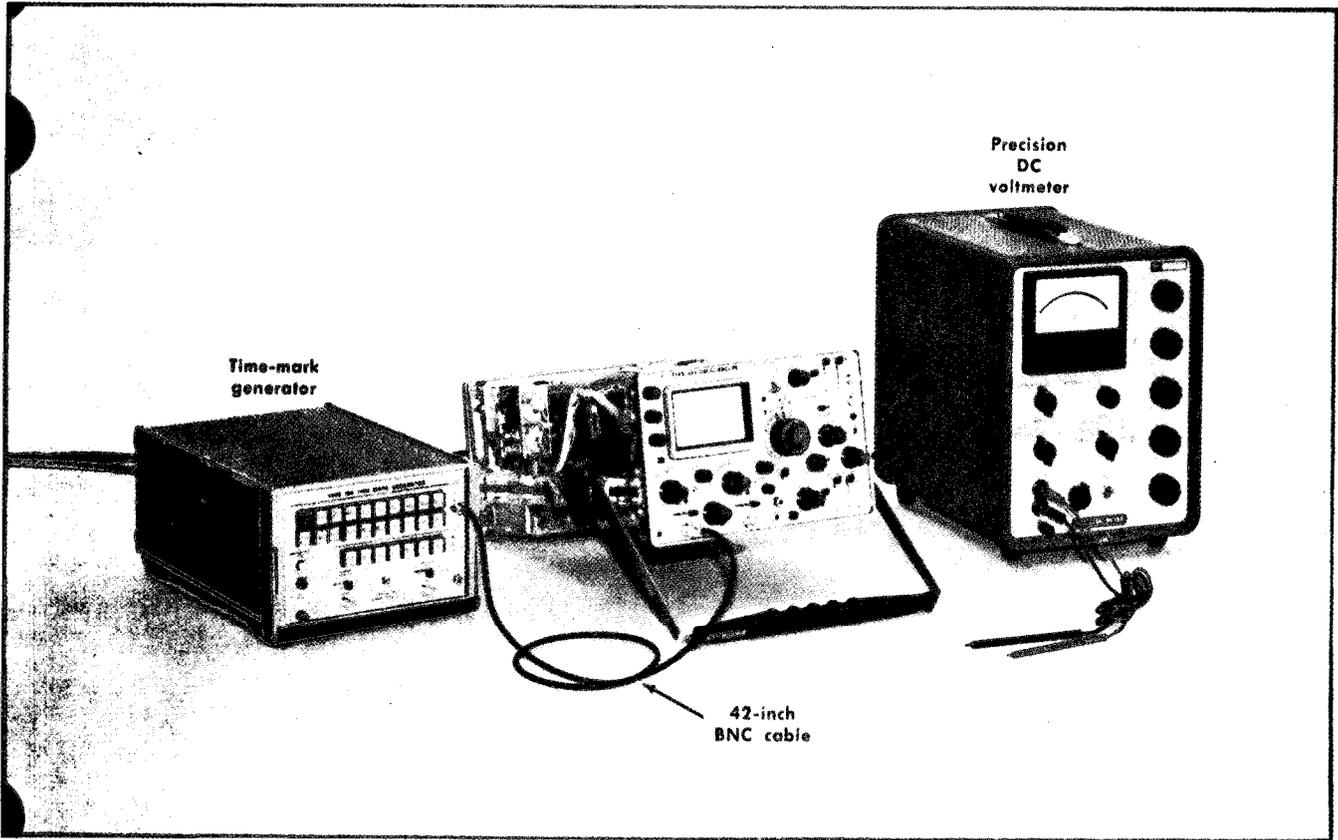

Fig. 6-10. Initial test equipment setup for steps 8 through 12.
- a. Test equipment setup is shown in Fig. 6-10.